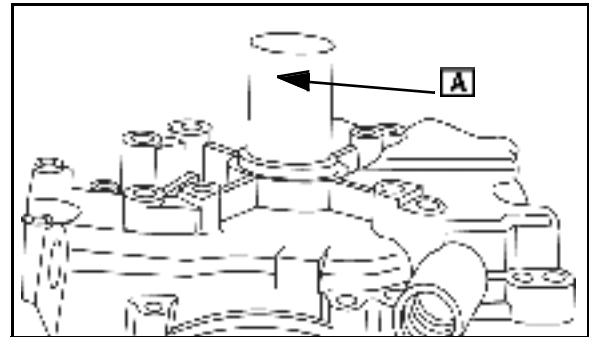

Fig. 27
2. Support the cylinder cover on arbor press and press out bearing using bushing (A) driver (#19226). Press bearing to the inside of the cover Fig. 27.